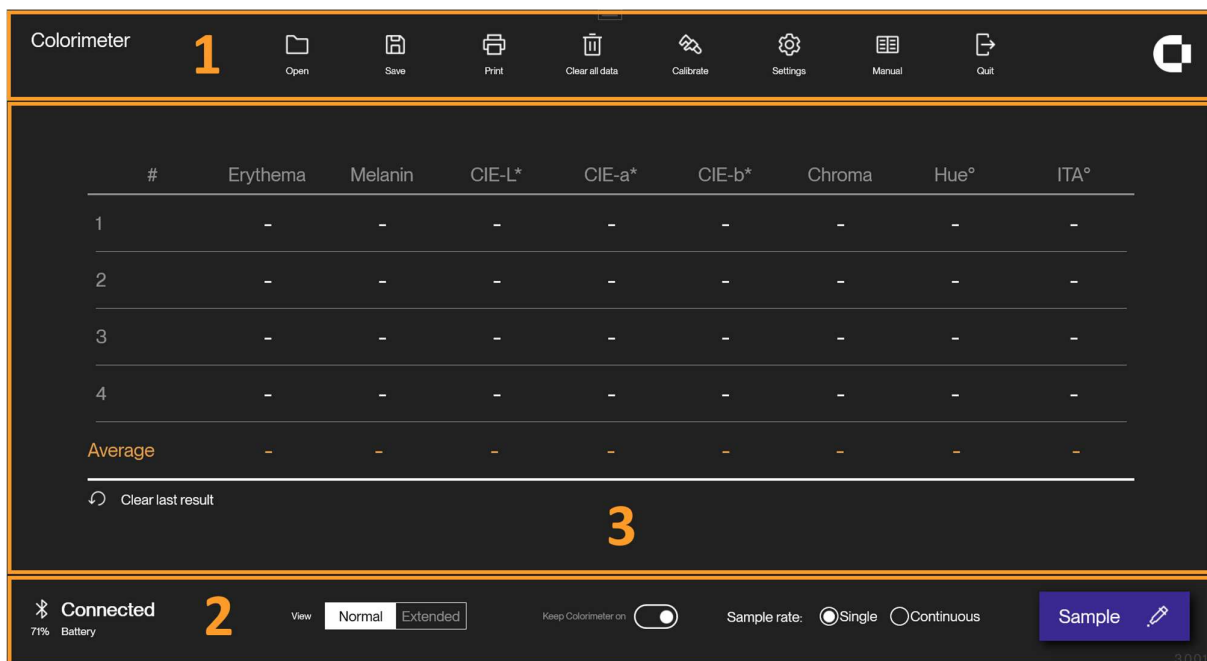

Figure 11 Main User-interface separated into 3 parts in orange
In Figure 11 the main User-Interface has been divided into three areas for the purpose of this guide. Areas 1, and 2, annotated with orange numbers are general menus available at all times when using the Colorimeter DSM-4 software.
- The Settings menu (not displayed in Figure 11) is covered in paragraph 0.